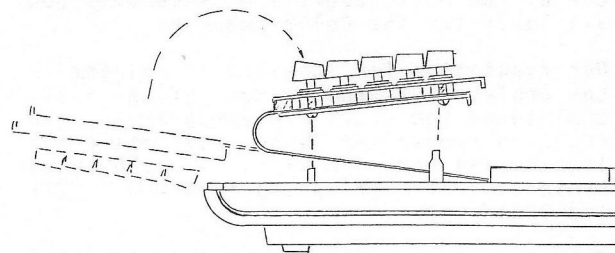

FIGURE 3
6. As shown in Figure 3, hold the KB 500 upside down with the cable pointed toward the receptacle on the motherboard. Insert the cable, and carefully rotate the unit till the cable forms a smooth arc beneath the keyboard. Place it on the pegs.